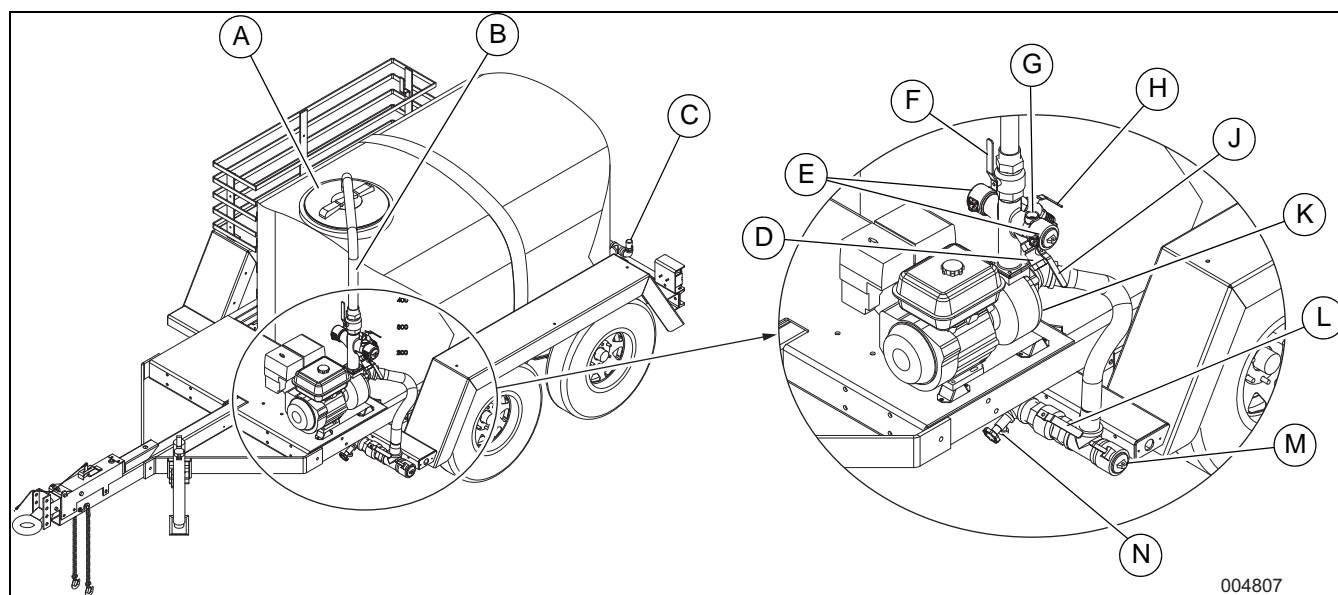

Figure 2-3. Components for Filling and Discharging Water Tank
1. See Figure 2-3. Remove tank cover. Open valve 1. Close valves 2, 3, and 4. Close gravity drain bibb.
2. See Figure 2-3. Open valve 4. Close valves 1, 2, and 3. Close gravity drain bibb.
1. See Figure 2-3. Close valves 1, 2, 3, and 4. Close gravity drain bibb.
1. See Figure 2-3. Close valves 1, 2, 3, and 4. Close the gravity drain bibb.